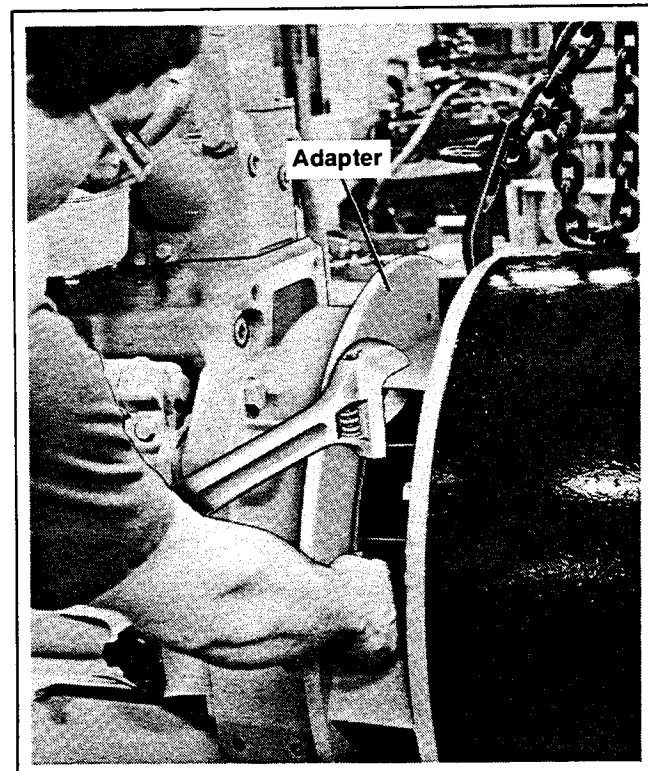

Figure 5-18. Coupling Flywheel Housing to Adapter
12. Move generator as necessary to align adapter and flywheel housing. Fasten and final tighten adapter to flywheel housing. See Figure 5-18.